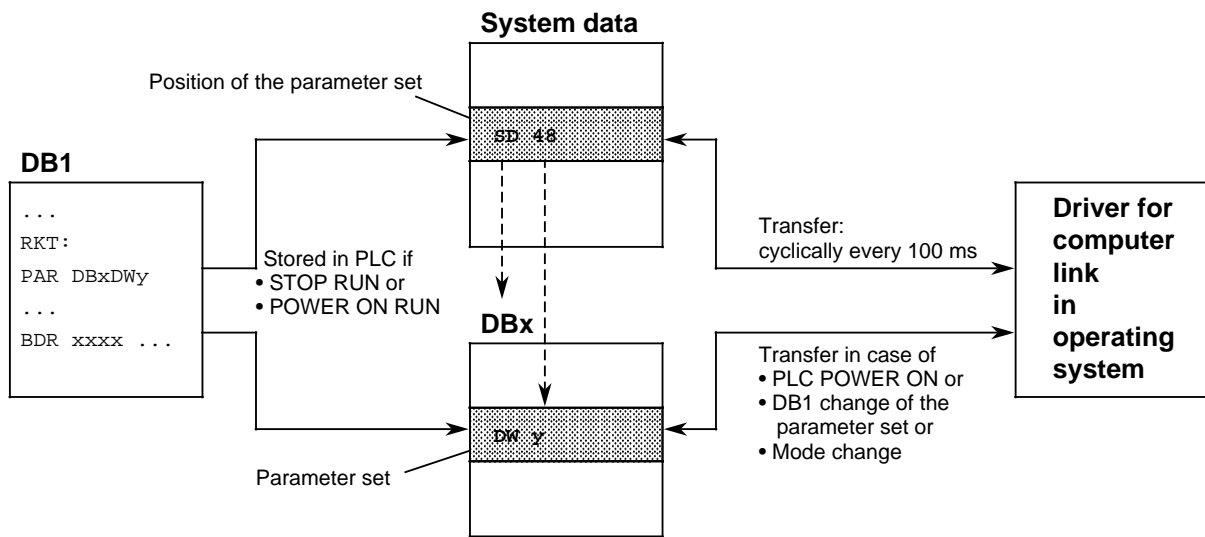

Figure 3-8 Access to Parameterization Data in a Computer Link
Access to parameterization data (Figure 3-8):
- The driver for the computer link in the operating system of the PLC accesses the parameterization data as described in Figure 3-8.